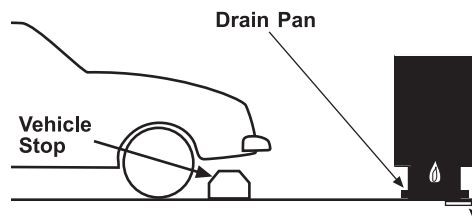

Figure 16. Garage Installation
3. Locate the water heater so it is protected and not subject to physical damage by a moving vehicle. In garage installation avoid damage to your water heater by installing a vehicle stop as shown in **Figure 16**. Check state and local codes for requirements prior to installation.